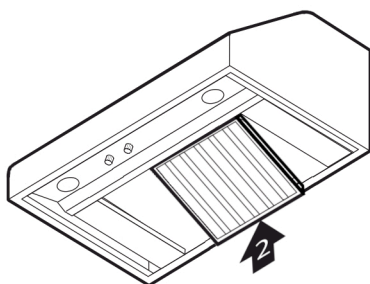

FIGURE 13: INSTALL THE STAINLESS STEEL BAFFLES – PART B
- b. Bring up the rear edge of baffle until it clears the back edge of hood (FIGURE 13).